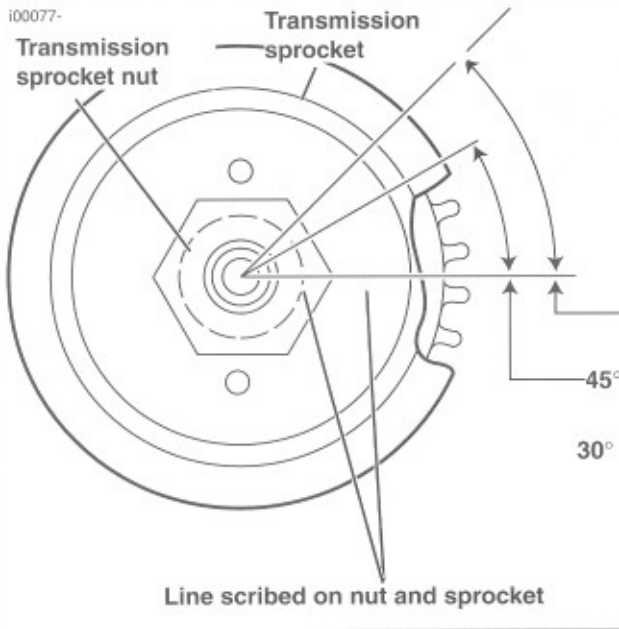

Figure 6-54. Transmission Sprocket Nut Final Tightening Procedure
- See Figure 6-54. Scribe a line on the transmission sprocket nut and continue the line on the transmission sprocket as shown.
- e. If lockplate will not align with holes, tighten nut to 45° maximum as shown in Figure 6-54.